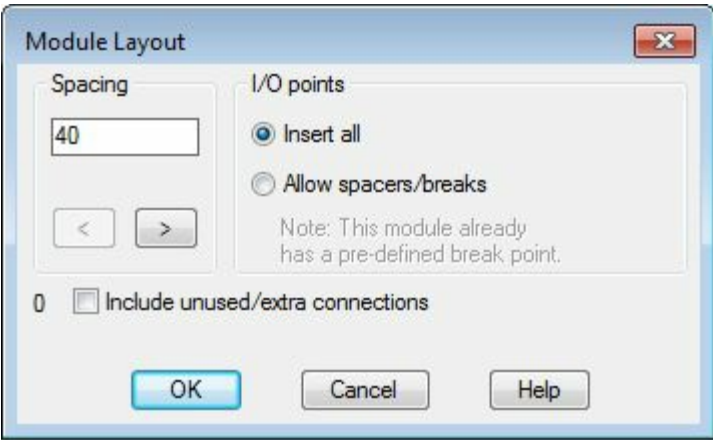

Figure-4. Module Layout dialog box
- Click in the drawing area to place the PLC. The **Module Layout** dialog box will be displayed; refer to Figure-4.